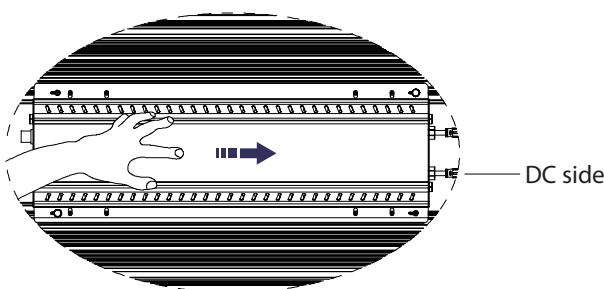

Fig. 7
c. As Fig. 7, slide the driver in the direction of the arrow marking.